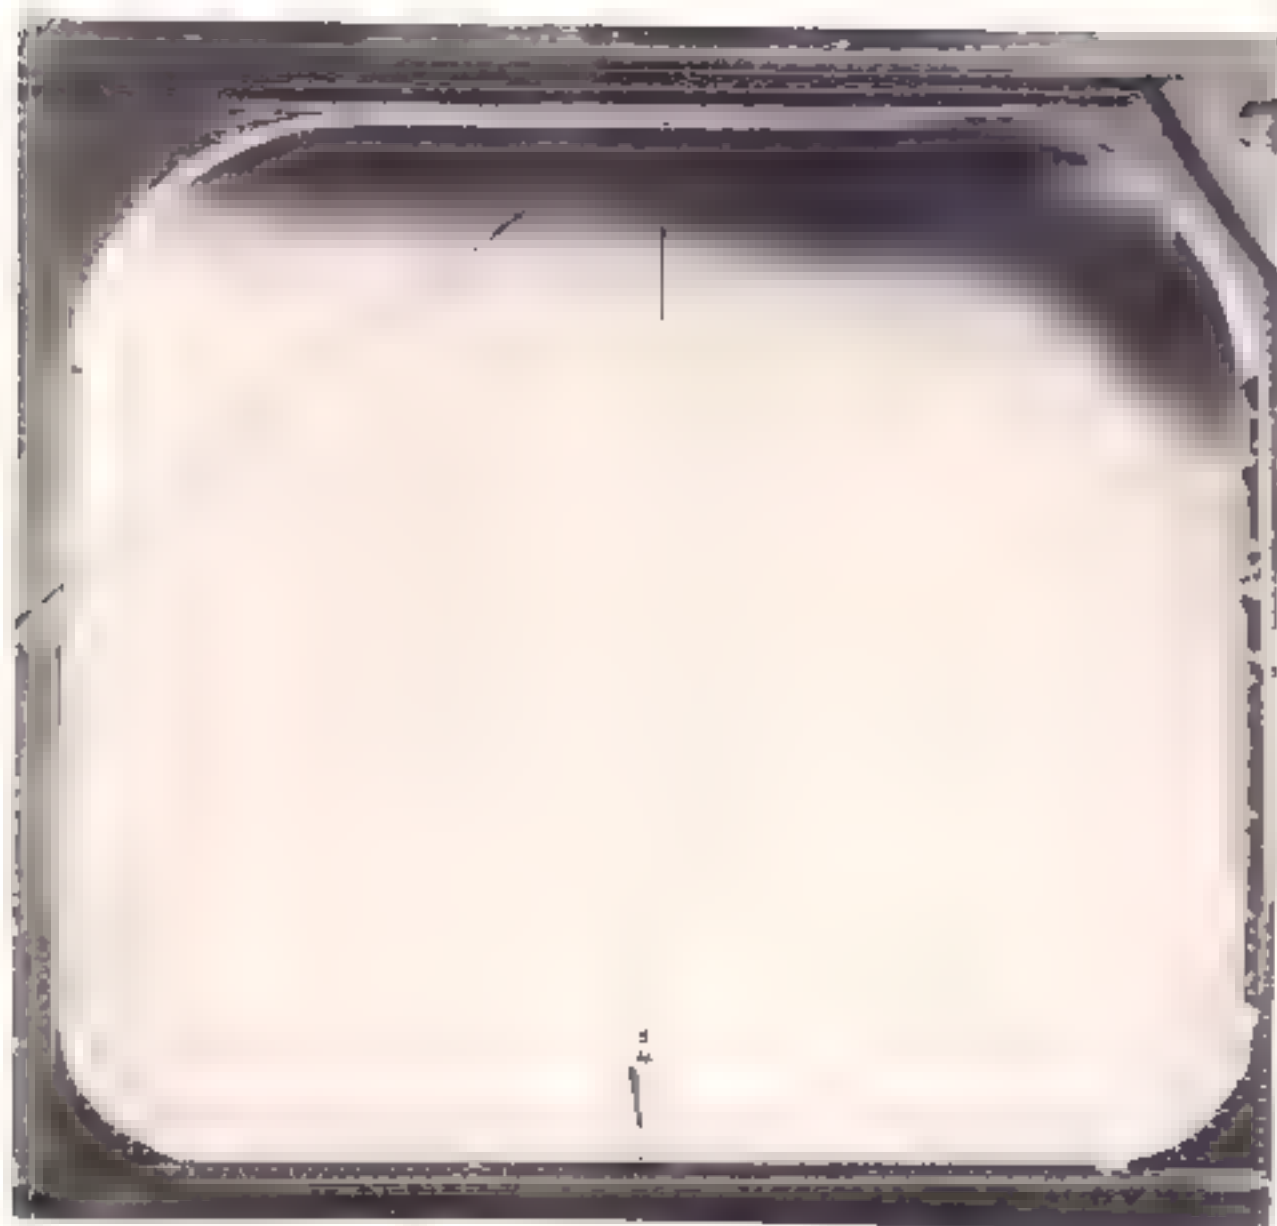

Figure 1-13. Leveling helicopter
(2) Hang plumb line from leveling slot provided on top frame of cargo door to leveling plate installed on bottom of door frame. (See figure 1-13.)
(3) Adjust height of jacks as required to precisely line up plumb bob at O point of scribed markings on leveling plate.